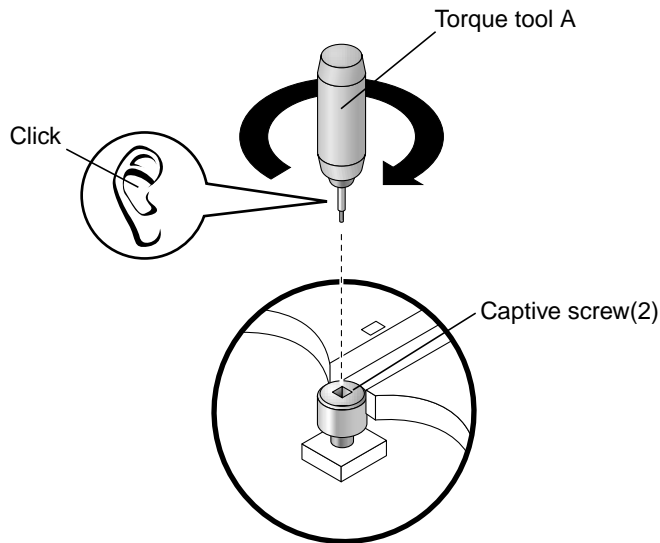

FIGURE 8-14 Torque Tool A Clicks When the Captive Screws Are Correctly Torqued
12. Repeat Steps 10 and 11 until torque tool A clicks (see FIGURE 8-14).